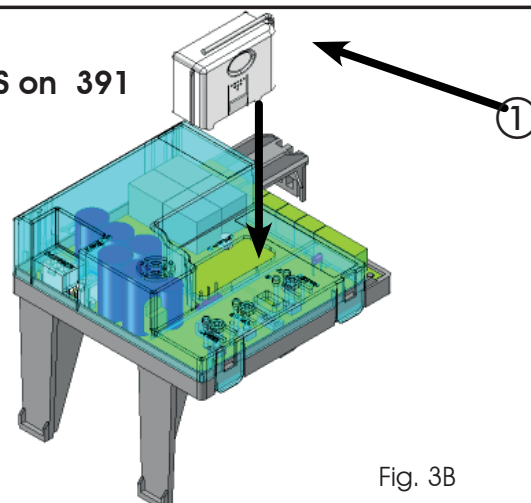
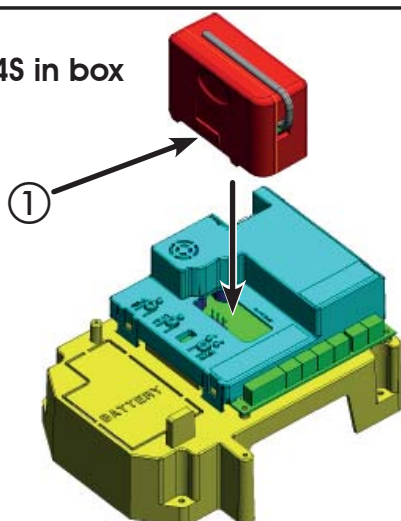

Fig. 3B
Fig. 3A
The control unit has an integrated 2-channel decoding system (DS, SLH, LC) named OMNIDEC. This system makes it possible to memory-store both total opening (OPEN A) and partial opening (OPEN B) of the automated system - this is made possible by an additional receiver module (fig.3A ref. ①) and Fig.3B ref. 1 for E024S for 391) and radio controls on the same frequency.